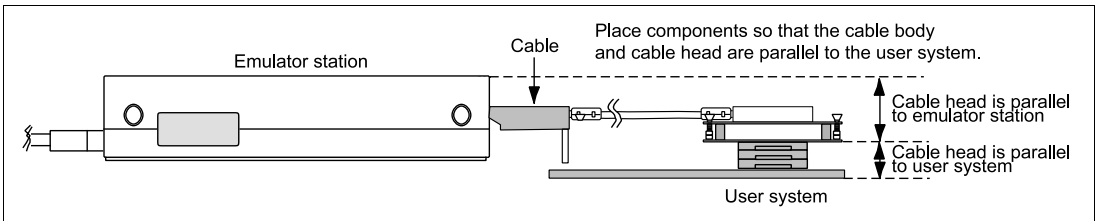

Figure 8 User System Interface Cable Location Example
5. While the emulator station is connected to the user system with the user system interface cable, force must not be applied to the cable head. Place the emulator station, user system interface cable, and user system as shown in the example in figure 8.